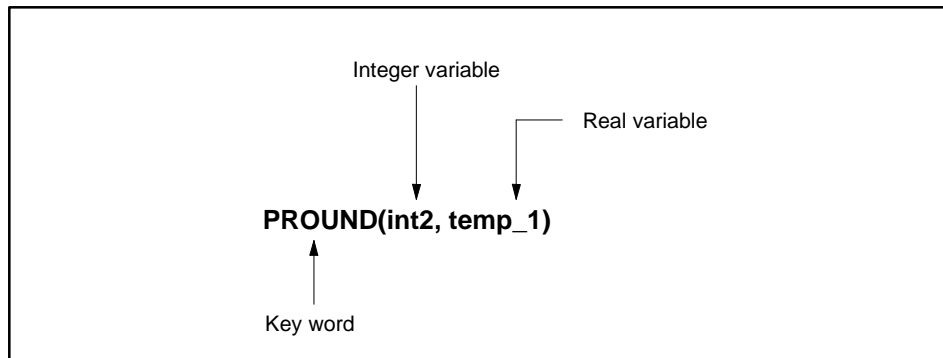

Figure 11-41 PROUND Procedure
- The integer value is the rounded result of the real variable. For example, in Figure 11-41, the value of the variable, **int2**, is 4 when the variable **temp_1** is 3.5.